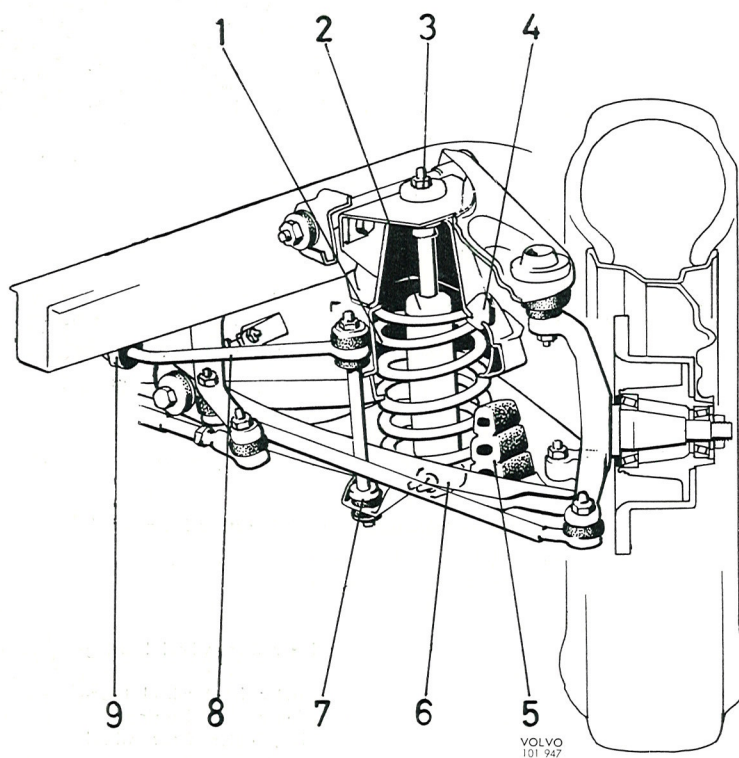

Fig. 7-2. Front spring and shock absorber
The Volvo 140 is provided with coil springs at both front and rear. The front wheel suspension is independent. The upper ends of the front springs (1, Fig. 7-2) are seated in housings formed in the front axle member, and are seated in the bottom of the lower wishbones. The lower wishbones are also provided with rubber buffers (5), which absorb any impacts arising from loading on the spring. The front axle member is fitted with rubber buffers (4) which limit the downward movements of the wishbones.
4. Disconnect the steering rod from the steering arm. Loosen the clamp for the brake hoses. Remove the attachment (7, Fig. 7-2) for the stabilizer.
The stabilizer (8, Fig. 7-2) which is attached to both the lower wishbones (7) and to the frame (9), increases the stability of the vehicle.